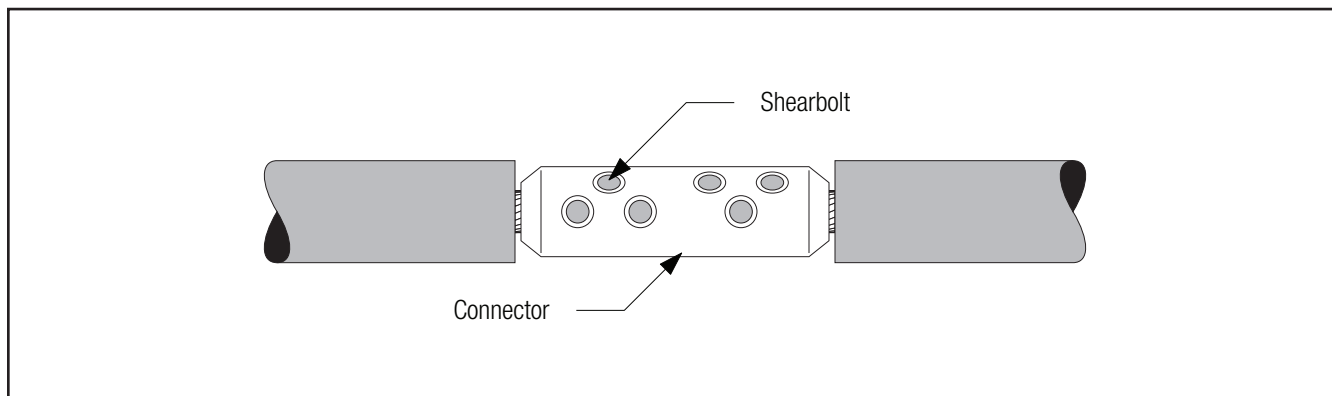

Figure 5
3.2 Install 3M™ Shearbolt Connector QCI 500-1000 according to the instructions included with the connector (Figure 5).